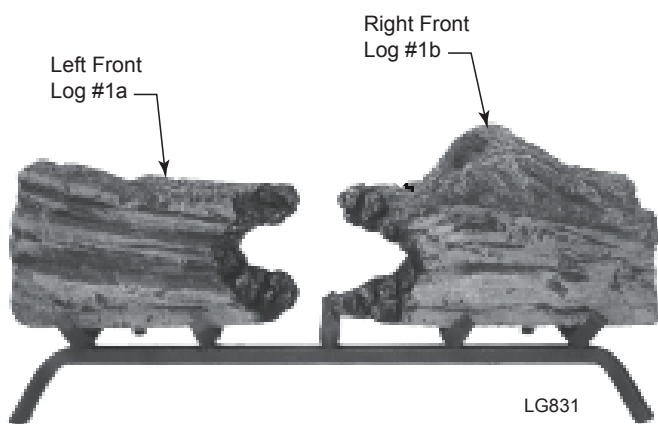

**Figure 81 -
2. Place left front log #1a on front left of grate. *Figure 81*
3. Place right front log #1b on front right of the grate. *Figure 81*